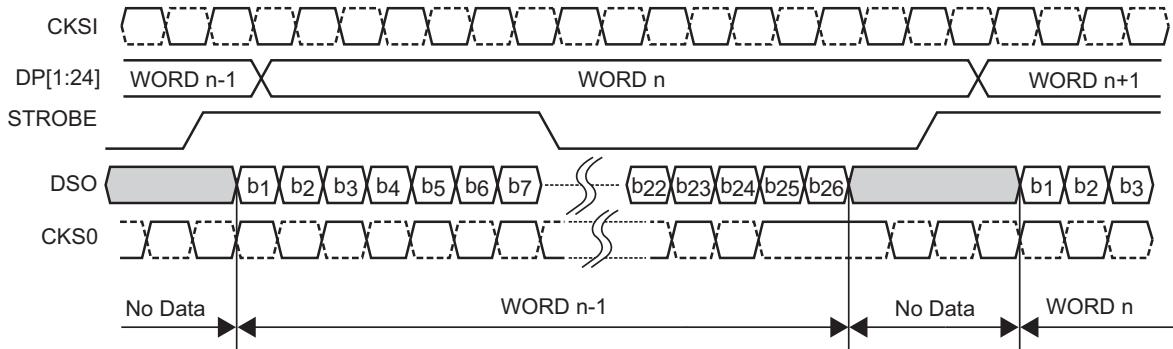

Figure 6. Serializer Timing Diagram Using Provided Bit Clock (No CKREF)
**Serializer Operation: (Figure 6), DIRI = 1,